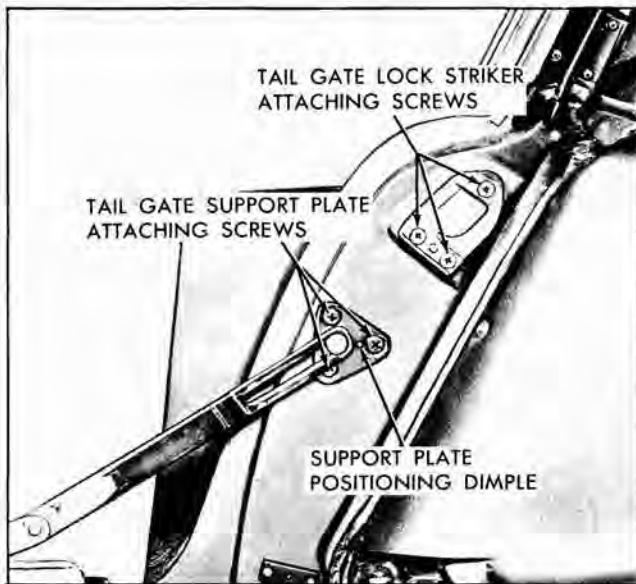

Fig. 5-19 Support and Lock Striker
3. Remove tail gate support attaching screws securing support plates to body and tail gate (Fig. 5-19) and remove support assembly.
4. To install tail gate support assembly, reverse removal procedure. Install support plate to body with positioning dimple towards front of body (Fig. 5-19).